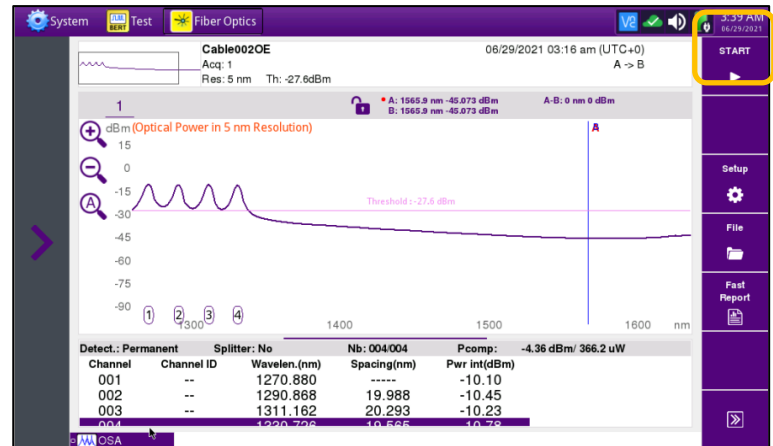

Figure 8: Test Results
2. The OCC will sweep the entire CWDM wavelength range. Results will be shown in graphical and tabular formats as shown in *Figure 8: Test Results*.